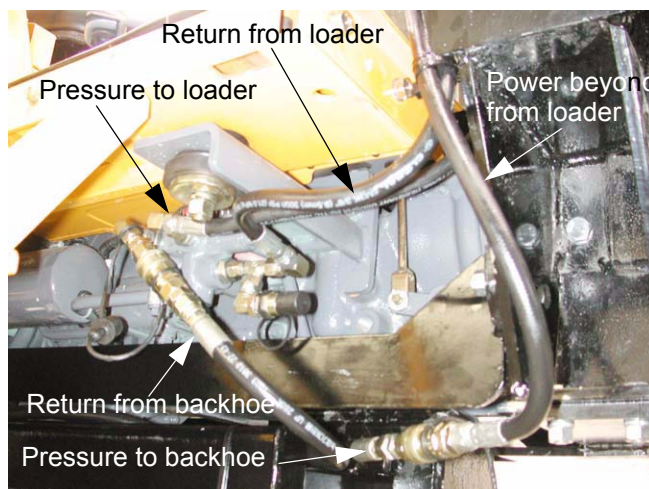

Figure 1.55
- 1.55. Couple the pressure hose leading to the backhoe to the power beyond hose from the loader. See Figure 1.55.